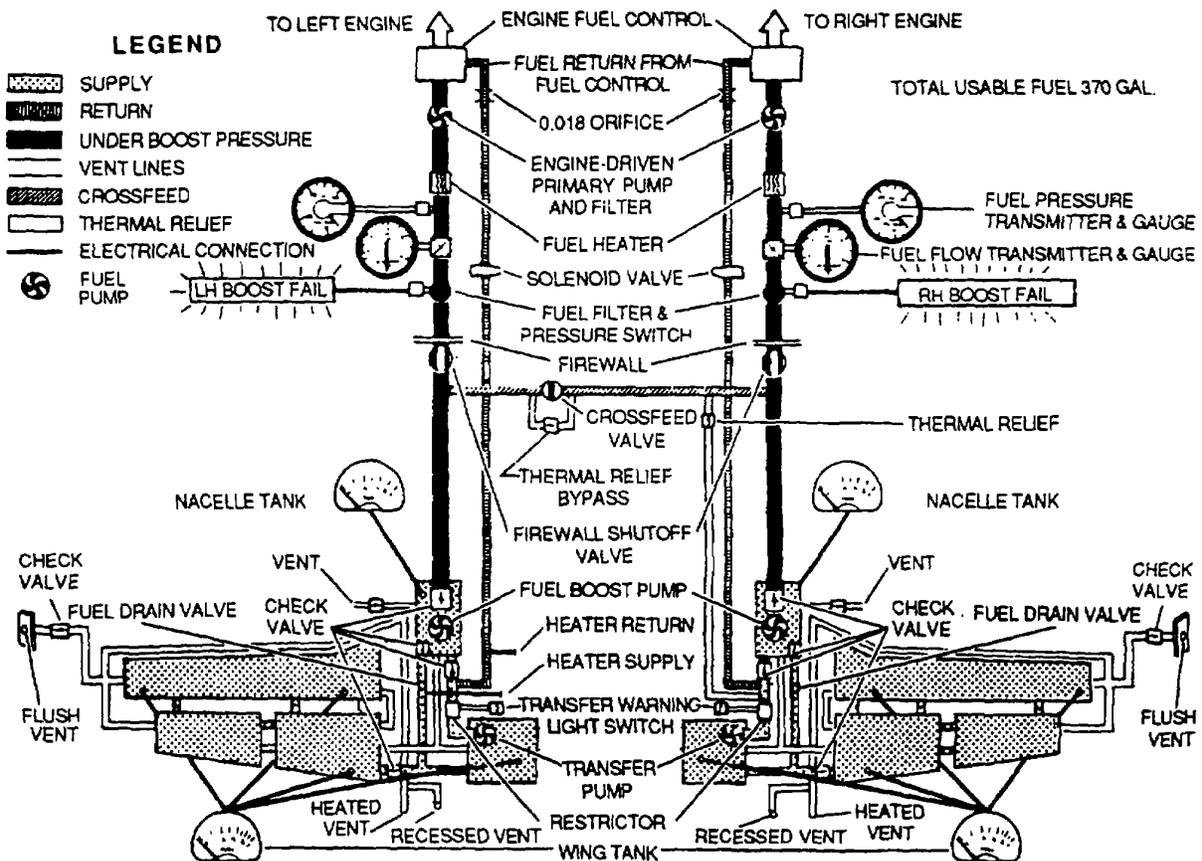

Figure 2-21. Typical Fuel System Schematic
(3) Maintenance. Maintenance of the CCR receiver consists of inspection (and replacement if necessary) in accordance with the applicable maintenance manuals. Scoring and nicks in the cylindrical fuel nozzle opening may be repaired by polishing out damage. Refer to the applicable maintenance manual for polishing procedures.
j. Fuel System Troubleshooting. Troubleshooting should be accomplished in accordance with applicable aircraft maintenance manuals. A typical troubleshooting chart and a schematic are shown in table 2-9 and figure 2-21.